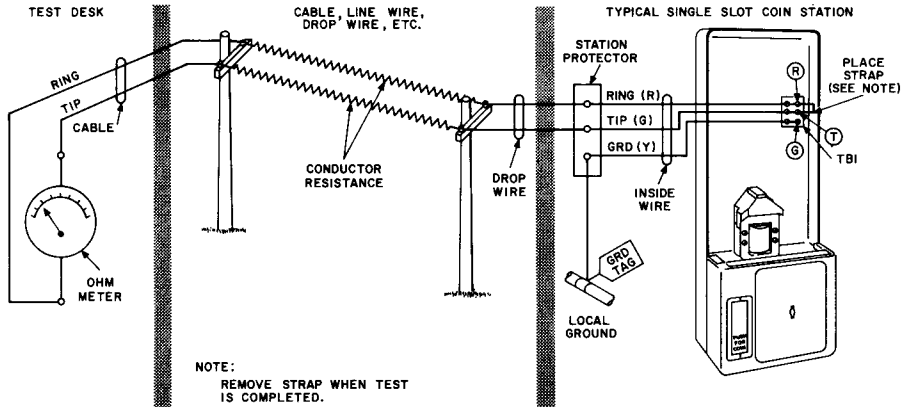

Fig. 3 — Loop Resistance Measurement
- Connection for loop and ground resistance measurements for a typical single slot coin station are shown in Fig. 3 and 4, respectively. See Table B for use of Dial Long Line equipment, and Table C for maximum allowable loop ranges.